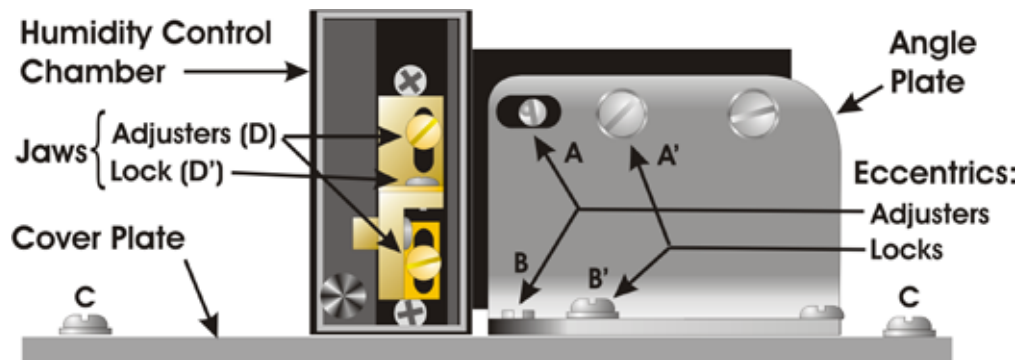

Figure 1-3. Filament block assembly.
**Humidity Control Chamber (Figure 1-3)** The chamber encloses the filament block assembly to provide a controlled environment in which to pull the glass. Access holes in the side of the chamber allow the glass to be loaded into position. The chamber must be removed to access the heating filament. To remove, unscrew the thumbscrew on the front plate of the chamber, remove the front plate, and then pull the chamber towards you.
**Filament Block Assembly (Figure 1-3)** The filament block assembly is made up of several pieces of hard black nylon. Wires supplying current to the filament are attached to threaded ‘posts’. This current is carried to the filament via the upper and lower **Brass Jaws**. Note that these jaws may be moved up and down by loosening the screws (**D**) that secure them to the front of the filament block assembly. When changing the filament type from trough to box (or vice versa), the jaws must be moved up or down so that the filament is positioned at the correct level relative to the glass. If the jaws are repositioned and/or the filament type has been changed, make sure that the securing screws of the jaws and filament clamp are again tightened. Failure to tighten these screws can result in, poor current flow for scorching and insufficient heat to melt the glass. Please refer to the “Installing a Filament” You Tube video at <https://www.youtube.com/watch?v=cCsJsIZlzLw>.
**Eccentrics and Angle Plate (Figure 1-3)** The Angle Plate secures the Filament Block Assembly to the Cover Plate; it contains two eccentric adjustments. The two chrome-plated screws **A** and **B** are the eccentrics, and **A’** and **B’** are the corresponding locking screws. By turning the eccentrics with a screwdriver the Filament Block Assembly can be moved up and down (**A**) or forward and back (**B**) to adjust the position of the filament. Loosen the locking screw associated with each ‘eccentric screw’ before turning, and tighten after completing the adjustment. Note: Changing the eccentrics should be made only for **fine/small adjustments**.
**Cover Plate (Figure 1-3)** The cover plate conceals the entry of the Pulling Cables into the Base of the instrument. It is attached to the top by two screws, in slots, at points labeled C. Loosening these screws allows the Filament Block/Angle Plate assembly to move forward and back over large distances.